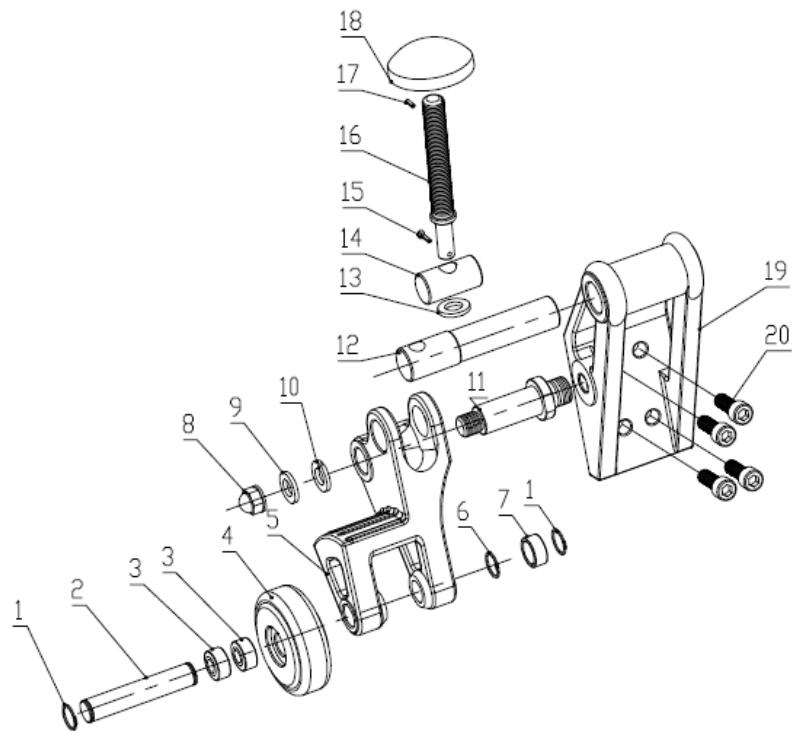

Fig.19
3. Jockey pulley parts form (Fig.19)